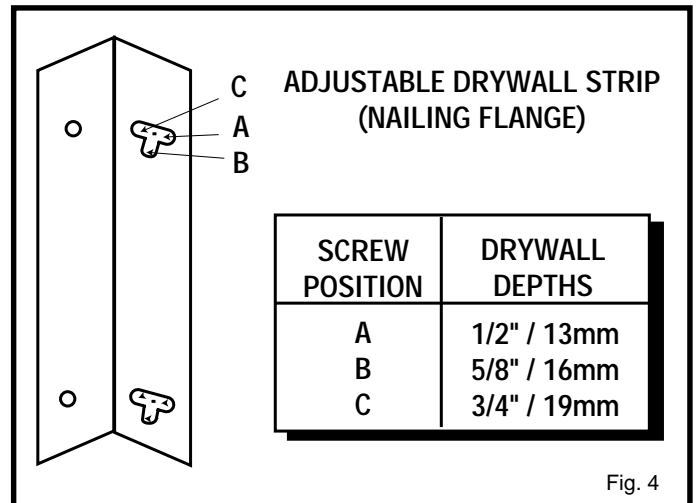

Fig. 4
4. Attach fireplace to frame using adjustable frame drywall strips (located behind access door for shipping). Preset depth to suit facing material (adjustable to 1/2", 5/8" or 3/4" depths). Fig. 4.